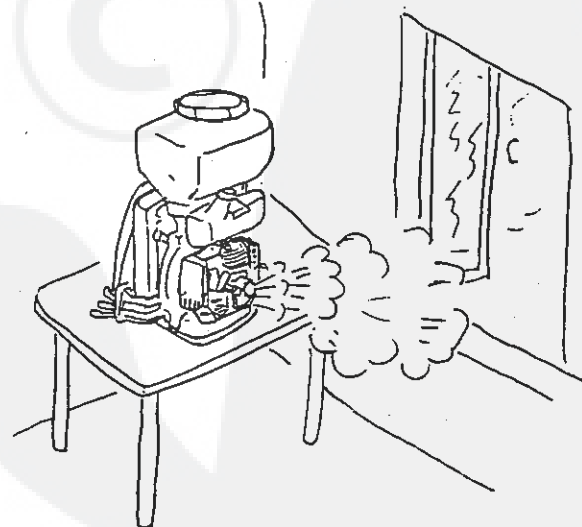

Figure 7
15. START ENGINE IN A VENTILATED ROOM OR IN VENTILATED AREA. (FIGURE 7)